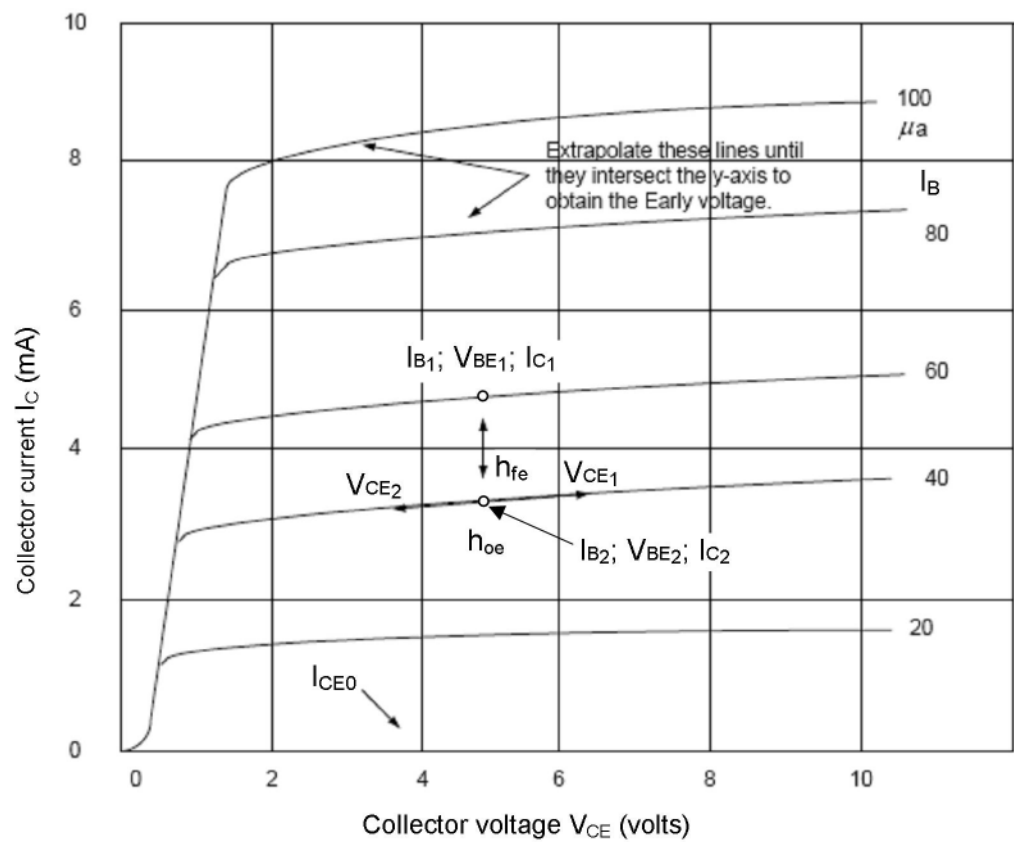
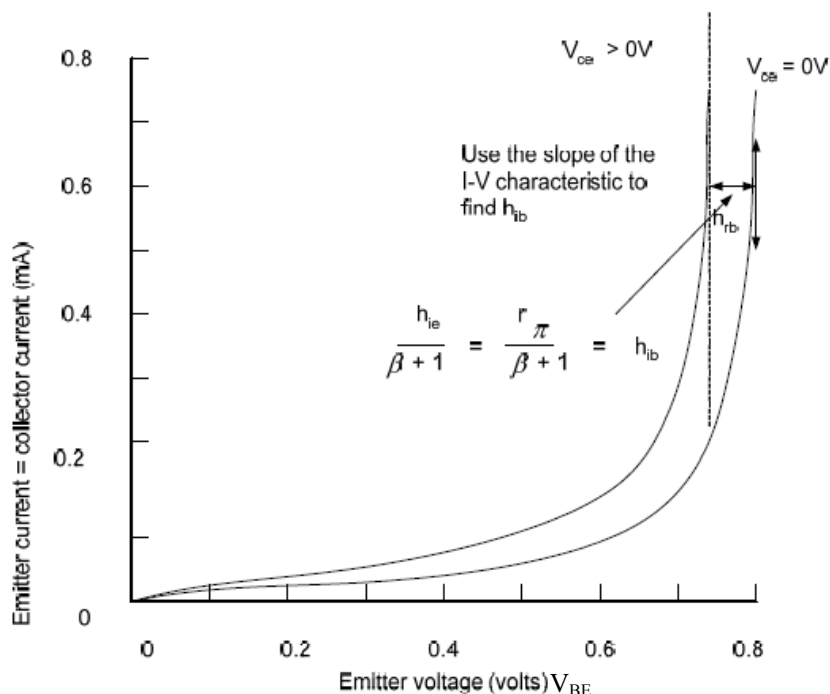

Figure 5.3: Bipolar transistor output characteristics
Figure 5.7: Transistor input characteristics
These terms are defined in Figure 5.3 and Figure 5.7 as the slopes of the characteristics or the spacing between the characteristic curves.
- Make a copy of the characteristic curves by hand. Your curves should be similar to those shown in Figure 5.3, which is a good representation of the output characteristics in the active region.
The type of characteristic that should appear on the screen is the one characteristic shown in Figure 5.7 and labeled as  $V_{CE} = 0V$ .